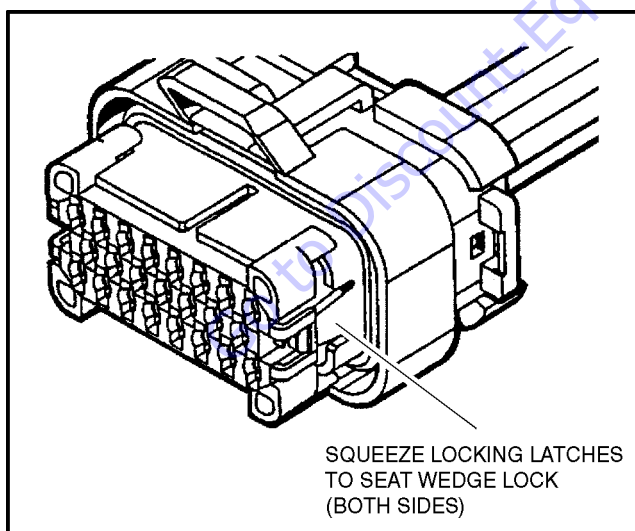

Figure 6-8. Connector Assembly Figure 3
3. After all required contacts have been inserted, the wedge lock must be closed to its locked position. Release the locking latches by squeezing them inward (See Figure 6-8.)